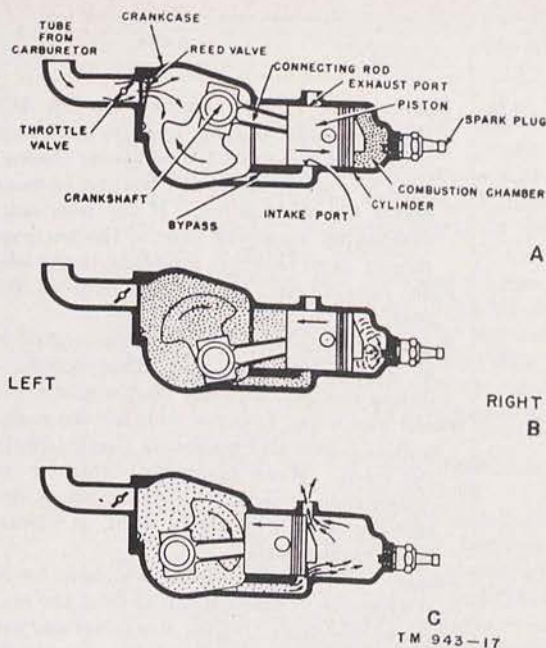

Figure 17. Two-stroke-cycle engine, diagram of operating principle.
48. Principle of Two-Cycle Engine (fig. 17)
a. When the piston travels away from the crankshaft, a charge of fuel vapor in the cylinder is compressed. At the same time, a partial vacuum, created in the crankcase, causes the reed valve, attached to the carburetor, to open. Fuel-air mixture is then drawn into the crankcase (A, fig. 17). At the end of the compression stroke of the piston (B, fig. 17), the spark plug ignites the compressed fuel vapor in the combustion chamber, and the explosion which follows forces the piston toward the crankshaft on its power stroke (C, fig. 17).
c. Just after the exhaust ports open, the piston uncovers the intake port openings and the compressed fuel vapors from the crankcase pass through the bypass and intake port holes and into the cylinder. Fuel vapors are directed upward by a deflector located on the piston head (A, fig. 17). The momentum of the flywheel carries the piston through the compression stroke. The continuous succession of these cycles produces a constant, smooth flow of power.